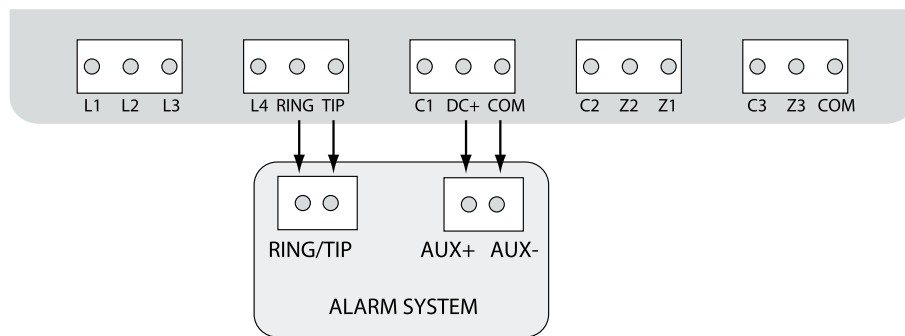

Figure 3
1. Connect the circuit as indicated in Figure 3 above—connect telephone contacts of the alarm system RING/TIP to RING/TIP contacts of the communicator.